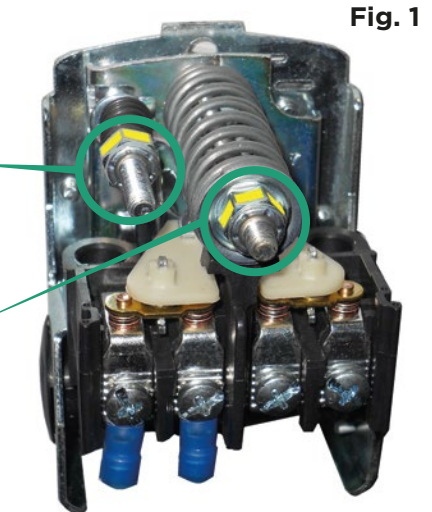

Fig. 1
- 1) Pressure Switch: Adjustments are made to change the pressure at which the pump turns on and off (Fig. 1).
The Glycol Feed Pump will turn on and activate when the system pressure falls below the cut-in setting on the pressure switch. The cut-in setting is factory set at 10 PSI, but is field adjustable (Fig. 1). The pump will continue to run until the pressure switch reaches the cut-out limit. The cut-out limit is factory set at 40 PSI, but is also field adjustable (Fig. 1).